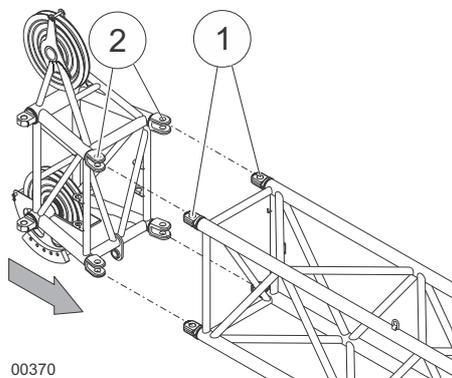

Fig. 234 Lifting the lattice boom headpiece to the lattice boom section
5	Align the lattice boom headpiece with the lattice boom section. The bore holes of the lattice boom headpiece (2) in Fig. 234 must line up with those of the lattice boom section (1) in Fig. 234.
6	Insert the bolts in the bore holes (1) in Fig. 234 on the lattice boom section and secure them with retaining springs.